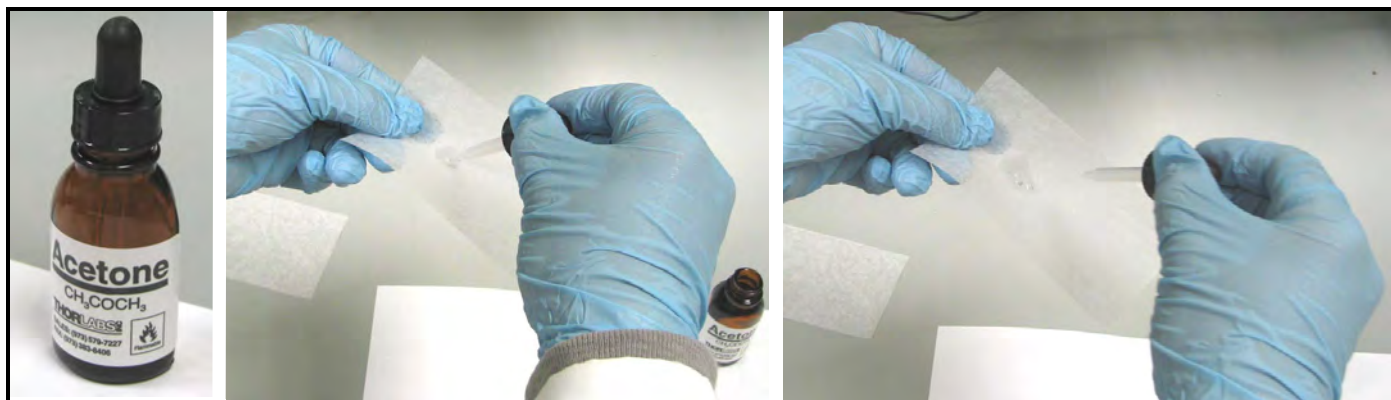

Figure 81: Using Analytical Grade Acetone
7. Using a piece of lens tissue, wet a small area with a very small amount of **analytical grade acetone** (barely wet the lens tissue). Typically, one drop of acetone will suffice. Tilt the lens tissue so that the acetone drop is absorbed by the lens paper along the length of the piece (see *Figure 81* below).